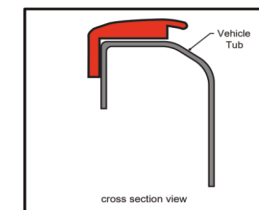

Figure G4
• Ensure the rear lengths (1000mm Long) of aluminium are positioned 5mm behind the rear of the sports bars and the notch is backward to rear. **Refer Figure G4**
• Using the drill templates, locate the templates along the bottom edge of alloy, mark the locations onto aluminium rail. **Refer Figure G4**.